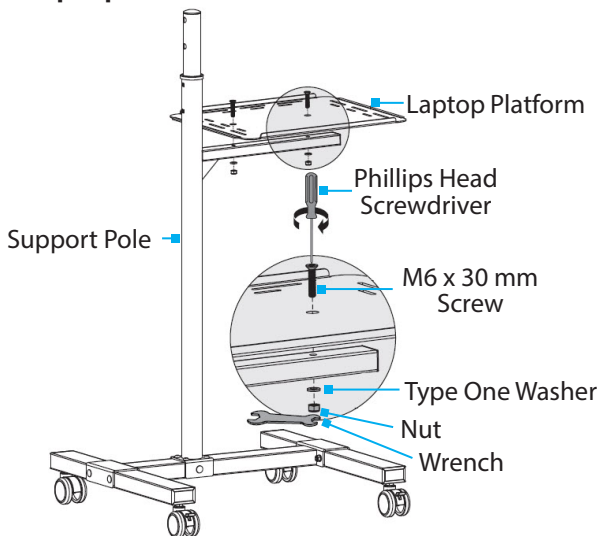

Figure 5
- Place the **Laptop Platform** onto the ledge located on the side of the **Support Pole**. Align the holes in the top of the **Laptop Platform** and the **Support Pole**. (Figure 5)